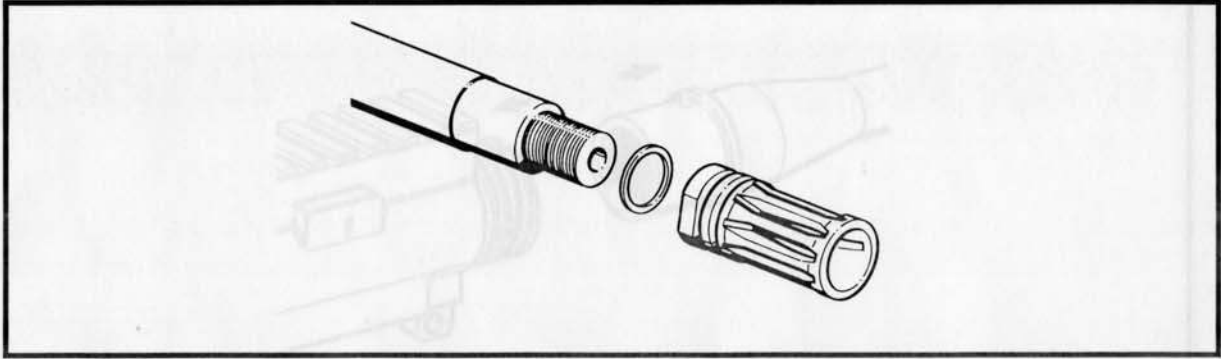

Figure 3-2-15 Removing the Compensator and Compensator Spacer
- (3) Remove the compensator and compensator spacer. See Figure 3-2-15.